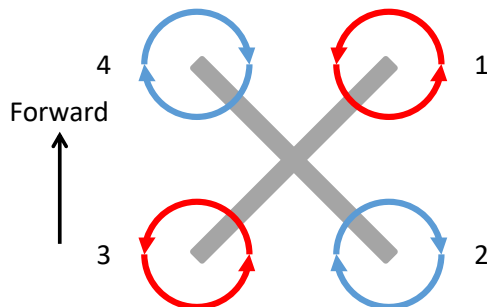

Figure 5: A top-down view of a quadcopter. The spinning direction of each rotor is indicated by color.
**How to fly a quadcopter** A quadcopter has two clockwise and two counterclockwise rotors (Figure 5). Let  $T_1, T_2, T_3, T_4$  be the thrusts generated by each rotor. Apart from the thrust itself, each  $T_i$  generates a torque that attempts to roll the copter over along certain axis. When hovering, the quadcopter requires each  $T_i$  be a quarter of its gravity so that both the net force and the net torque